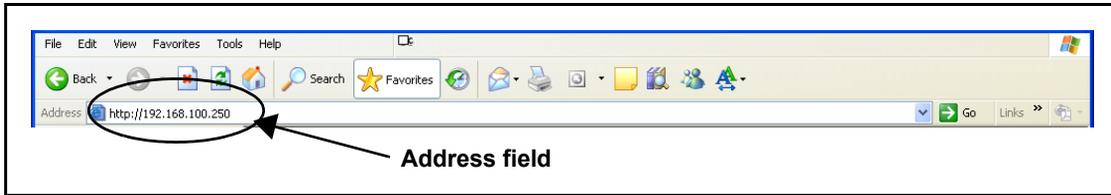

Figure B-6. IP Address Insertion to Add X75OPT-HDDUOCON Option
1. Type the IP address of the X75HD/X75SD unit you are upgrading into the **Address** field of your browser (see Figure B-6 on page 234).